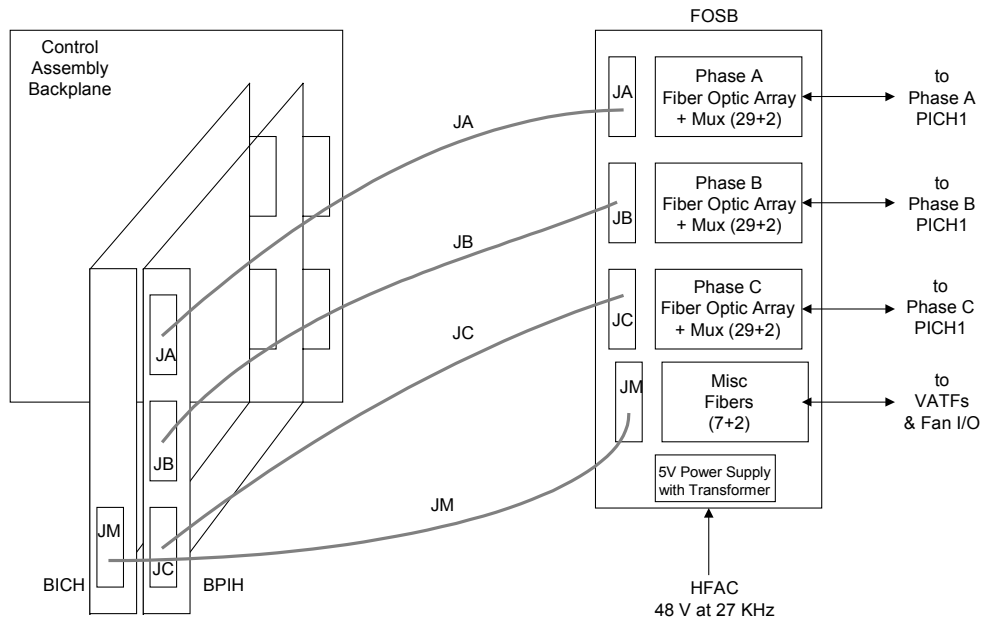

Figure 1. BICH Board, BPIH Subassembly, and FOSB Board Interconnections
Most of the BICH board's bridge inputs/outputs (I/O) are routed through the BPIH subassembly to the IS200FOSB Fiber-Optic Interface Board (FOSB) on a per phase basis via three identical cables, assigned to phase A, B, and C signals. There is one connector cable (JM) which goes directly to the FOSB board. The FOSB board multiplexes all phase faults (except instantaneous overcurrent, IOC) into one serial fault stream that the BICH board receives and demultiplexes. The front panels of the BICH board and BPIH subassembly provide high-density shielded connectors for these cables and maintain shield continuity to the board rack chassis (see Figure 1).